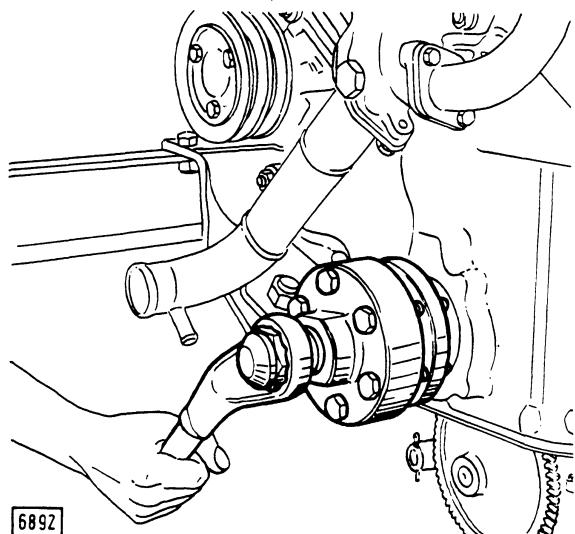

Fig. 27 - Removing crankshaft vibration damper using puller
- Remove crankshaft vibration damper and withdraw hub as shown in fig. 27.